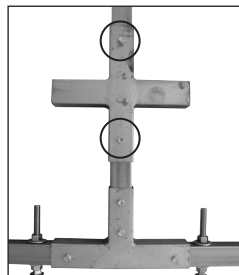

FIG. 2
2. Assemble the two end base rails and the mid base rail as shown in Figure 2. The 3-way connector should be loose between the levelers at this time.
FIGURE 2: Assemble base rails as shown. The 3-way connector is loose at this point. Levelers should be finger-tight to allow for adjustments once the system is assembled and in position.
2. Using the diagram to the right, position the 4-way connector as shown and secure to the vertical tube using two (2) Tek screws (Fig. 2).